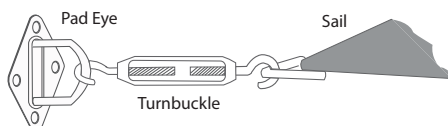

Fig. 9
- A.** Your DualShade Shade Sail includes the fixing accessories needed for installation (Fig. 9).